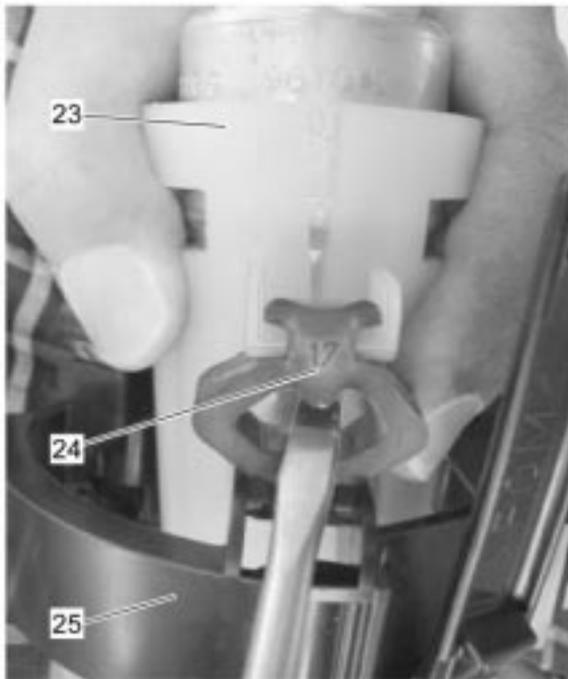

Fig. 13
- Push the upper sections of the three rubber buffers (24) back into their mountings on the sleeve (23). (cf. → fig. 13).